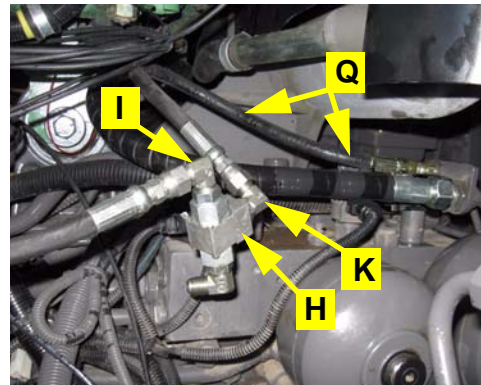

Figure 6c: Installed load sense shuttle
- c. Disconnect the rubber load sense hose from the steel line. Attach hose **Q** to the steel load sense line and to fitting **K** on the load sense shuttle **H** (Figure 6c).
- d. Attach the disconnected rubber load sense hose to fitting **I** on the load sense shuttle **H** (Figure 6c).